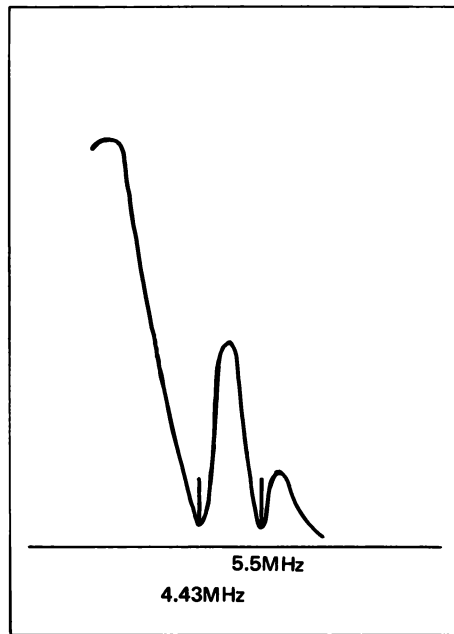

Figure 30.
- Adjust sound trap(T502) for minimum display at 5.5 MHz on the scope. (Fig. 30)